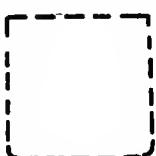

Fig. 143. Marking for the pocket.
- A. Mark the pocket position in a desirable location according to the figure and the style of the garment (Fig. 143).